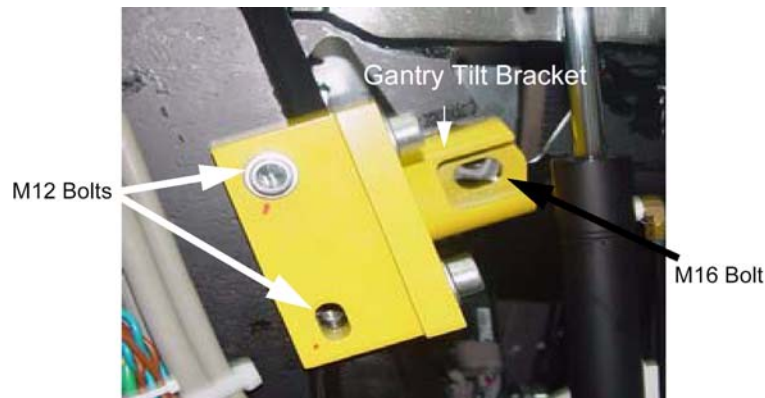

Figure 1-75 Gantry Tilt Bracket Removal
- 1.) Refer to Figure 1-75. Remove the M12 bolts using a 10 mm Hex wrench.